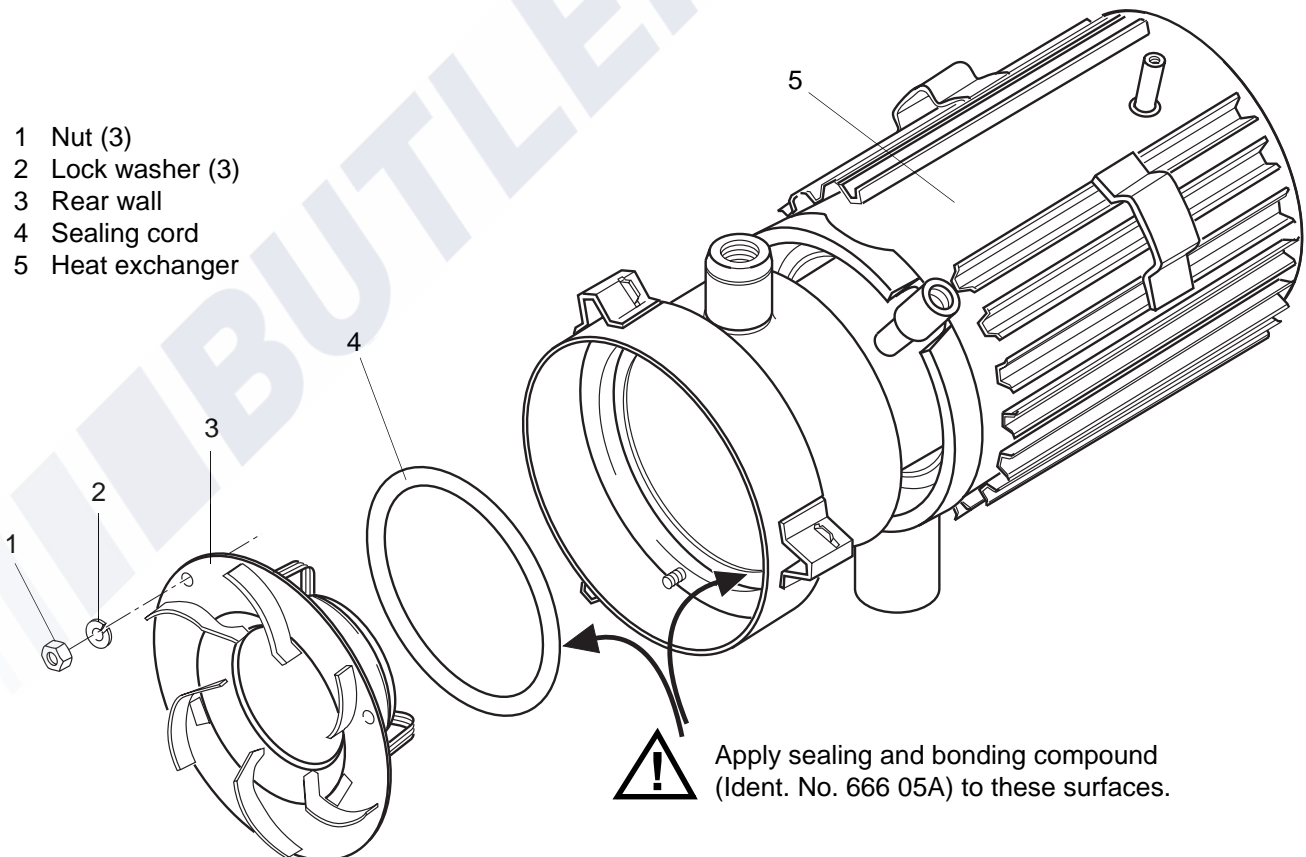

Fig. 903 Replacement of Heat Exchanger
7. Pull off end cap (6).
9. Remove nuts (1, Fig. 903) and lock washers (2).
10. Pull rear wall (3) out of heat exchanger and remove sealing cord (4).
1. Apply sealing and bonding compound (Ident. No. 666 05A) to mating surfaces of sealing cord (4, Fig. 903) and heat exchanger (5) and locate with rear wall (3) in heat exchanger (5) for assembly.
2. Secure rear wall (3) with nuts (1) and lock washers (2).
3. Torque nuts (1) to 1.5 ± 0.2 Nm.